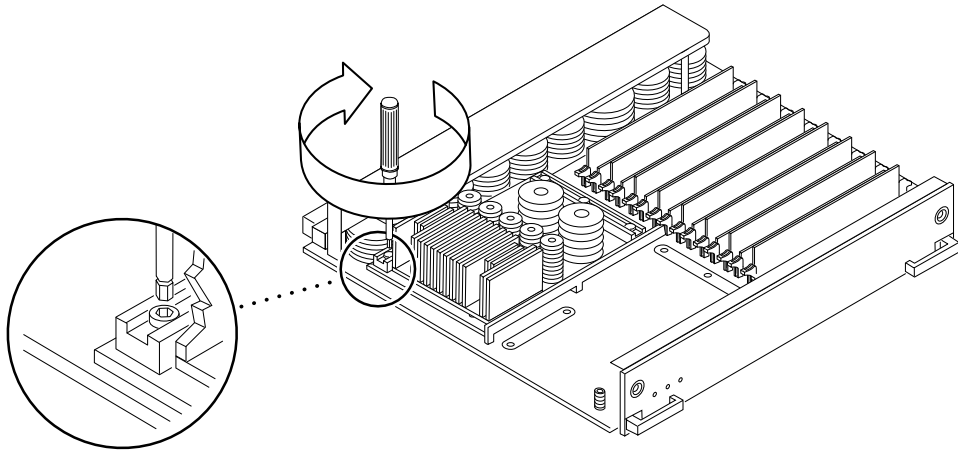

FIGURE 3-11 Tightening Compression Connector Screws
- c. **Finish the module installation by tightening *all* the screws to 6 inch-pounds in the same tightening sequence. See FIGURE 3-11.**